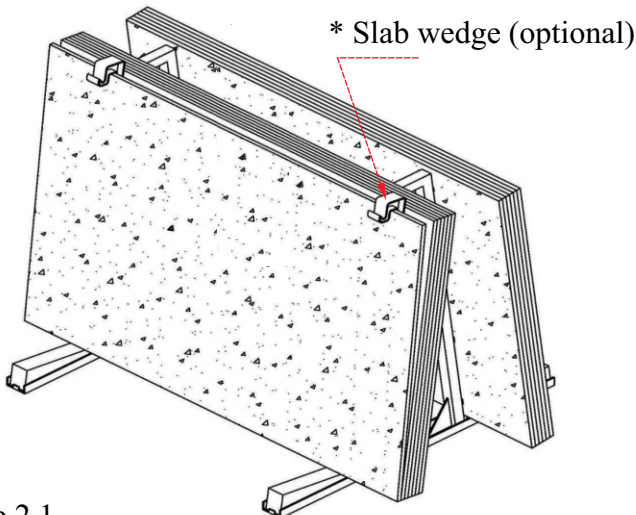

Figure 2.1
**Step 2:** Use slab wedges\* to make a gap between the outer slab and the inner slab (Figure 2.1).